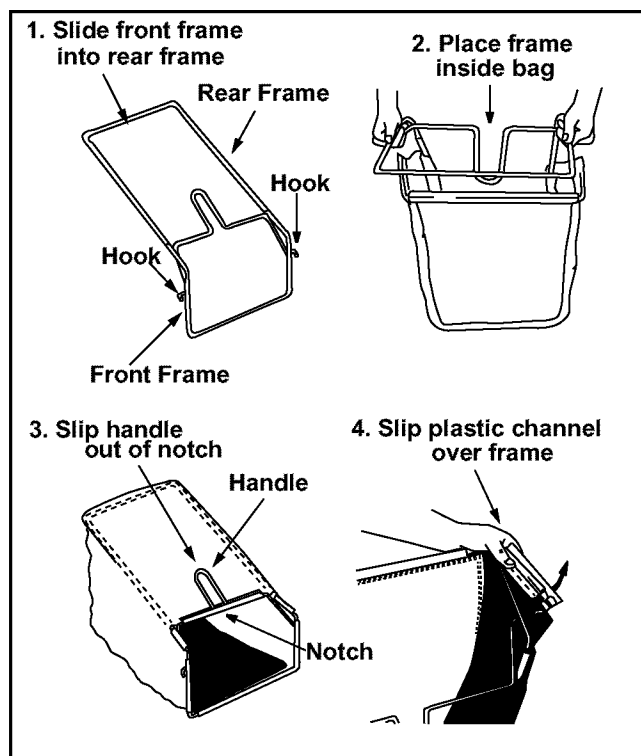

Figure 6
- Slip the plastic channel of the bag over the frame (adjacent to the handle of the grass catcher) as shown in Figure 6. Make sure that the handle of the grass catcher protrudes out of the notch in the plastic channel on bag.
- Secure bag to the frame by working the plastic channels on bag over the frame on the other sides as shown in Figure 6.